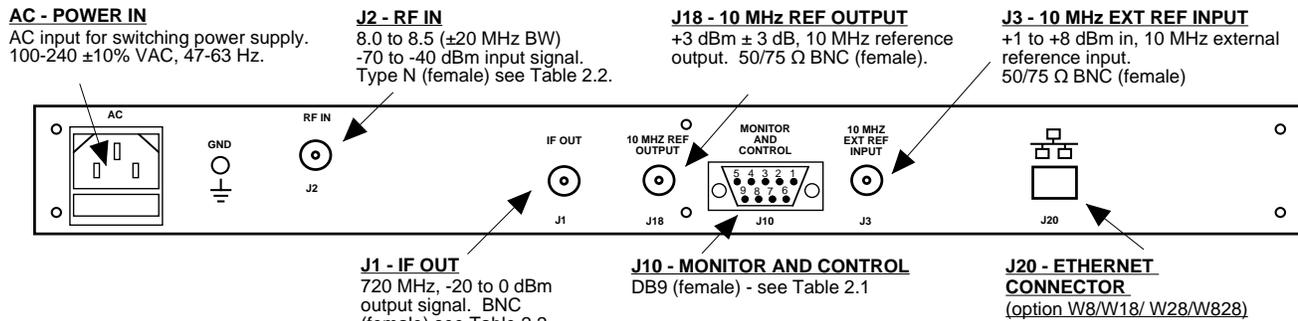

FIGURE 2.2 2016-8085-720 Rear Panel I/Os
Figure 2.2 shows the input and output connectors on the rear panel.
1. Connect a -70 dBm to -40 dBm signal to RF IN, J2 (Figure 2.2)